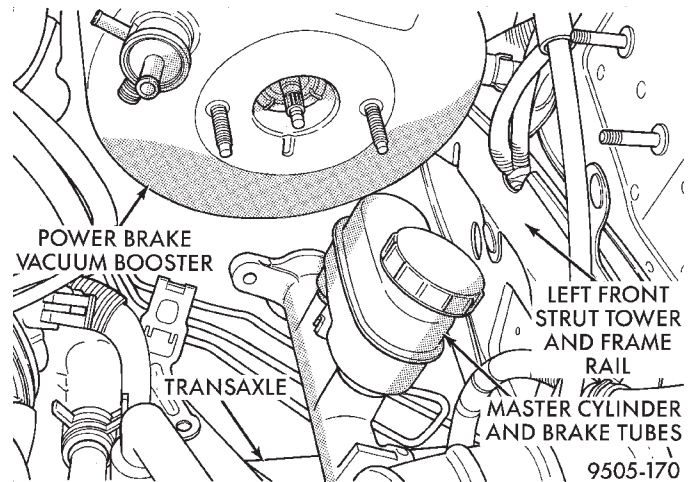

Fig. 97 Master Cylinder Assembly Positioned For Booster Removal
(11) Without removing the brake tubes from master cylinder, remove it from the power brake vacuum booster. Then carefully lower master cylinder and brake tubes as an assembly until it is positioned on top of the transaxle (Fig. 97).
(12) Locate the vacuum booster input rod to brake pedal attachment under instrument panel. Position a small screwdriver between the retaining clip center